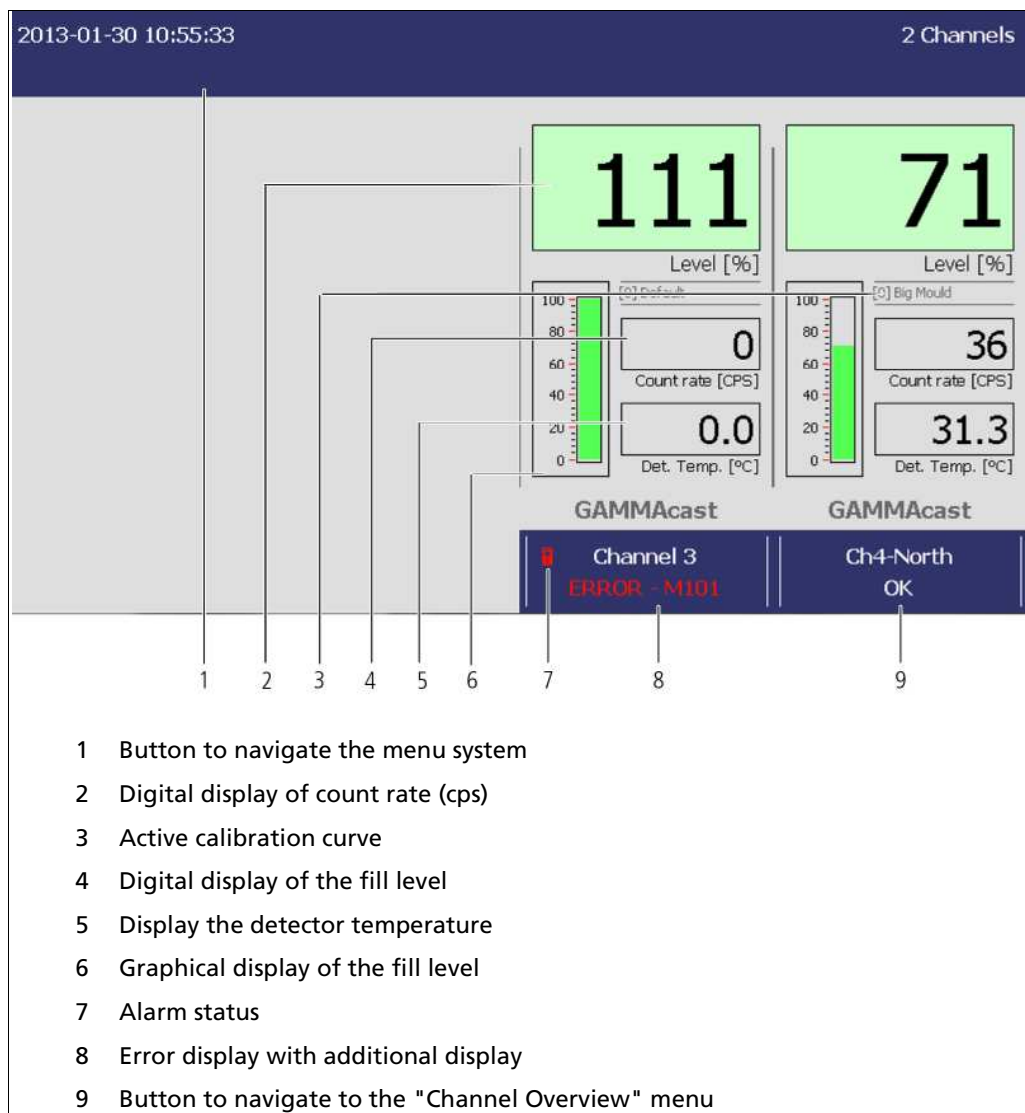

Fig. 16 Standard display of the EVU
If the system is fully loaded and running, the start page of the measurement system is displayed (Fig. 16).
The display varies depending on which measurement channels are installed. For example, two measurement channels are shown in Fig. 16.
Click on the top blue bar (Fig. 16, Pos. 1) to reach the system menu (chap. 6 „The System Menu“).
Positions 2 to 9 give you a view of graphical information for the fill level (Fig. 16, Pos. 6), of the detector temperature (Fig. 16, Pos. 5), of the fill level (Fig. 16, Pos. 2) and the count rate (Fig. 16, Pos. 4).
In case of failure, the error number is displayed (Fig. 16, Pos. 8). All castXpert LB 452 error messages have the identifier "M" and all GAMMAcast LB 67xx error messages have the identifier "D".
- Identification of the measurement channel (Fig. 16, Pos. 9)
- Identification of the calibration curve (Fig. 16, Pos. 3)
- Alarm status (Fig. 16, Pos. 7)
To reach the system menu, click on the top blue bar on the standard display (Fig. 16, Pos. 1).